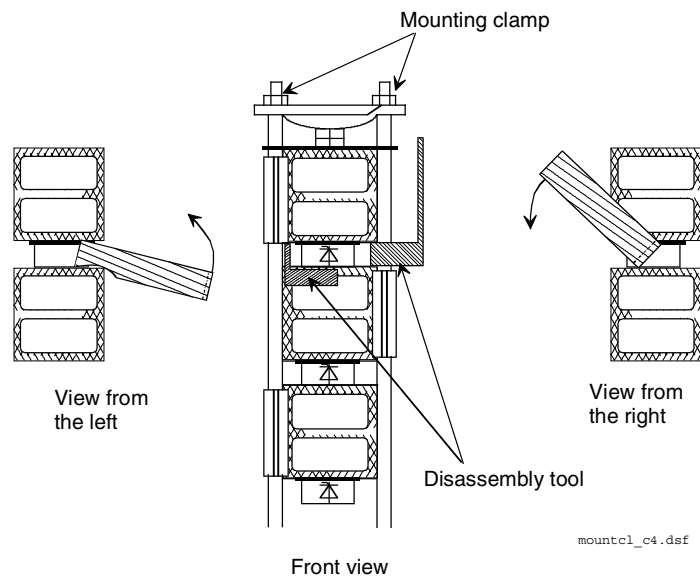

Figure 9-1 How to use the disassembly tool (at a left thyristor stack of a converter)
- Attach the disassembly tool at the faulty thyristor and prise open the upper and lower heat sinks (see Figure 9-1). The copper bars need not be loosened .